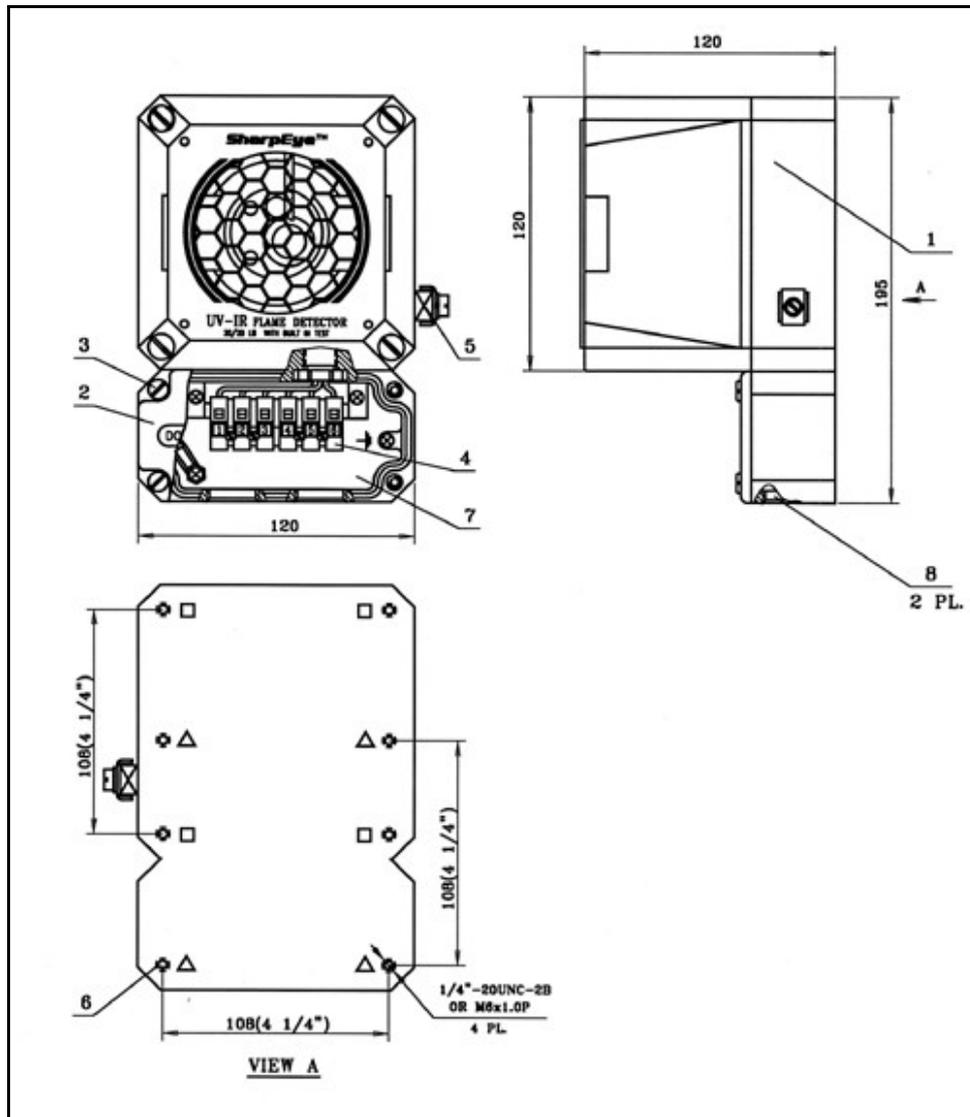

Figure 10: Flame Detector Assembly - Wiring Diagram
The EExde approved version provides an additional EExe terminal box attached below the EExd detector and therefore allows easier access in hazardous areas (see fig. 10). The unit is prewired to the terminals in the additional EExe terminal section ready for field wiring connections
- 3 Place the detector, with its conduit inlets pointing down, on the holding plate of the swivel mount (Fig. 4b item 7). Secure the detector by four (4) M6 screws with M6 spring washers from the Swivel Mount Kit using the holes (Fig. 4a item 9). You can use the thread on the modified cover (Fig. 10 item 1) marked either triangle symbol or square symbol. Use No. 5 Hex Key for M6 screws.
Refer to Fig. 10.